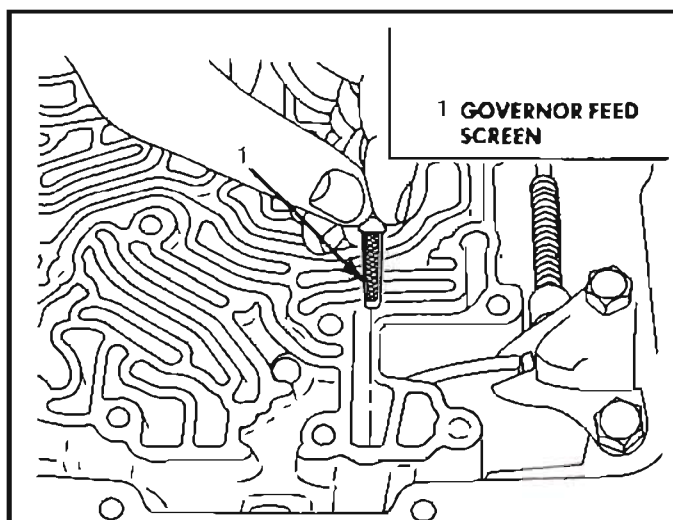

Figure 110 Governor Feed Screen Installation
5. Install governor screen in the case. See Figure 110. (Clean before installing)